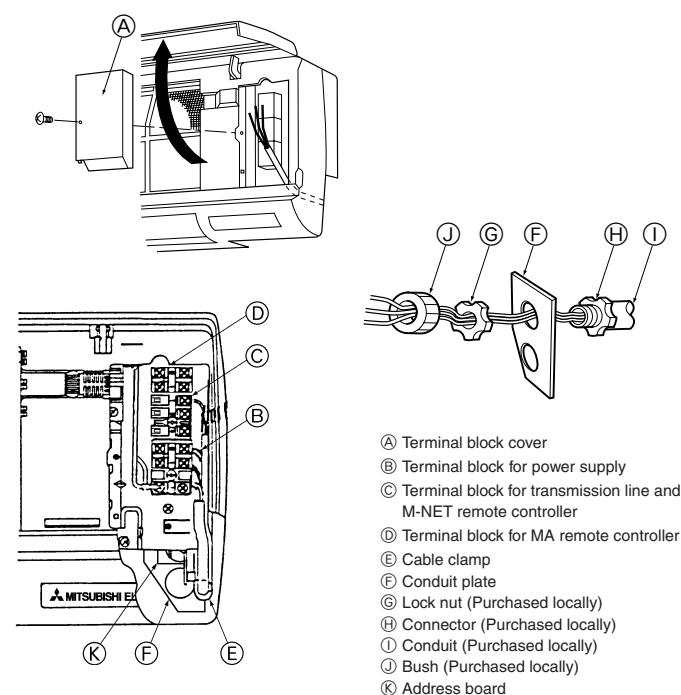

Fig. 6-2
■ PKFY-P12/P15NGMU-E (Fig. 6-2)
3. Open the front grill, remove the tapping screw (1), and then remove the terminal block cover.